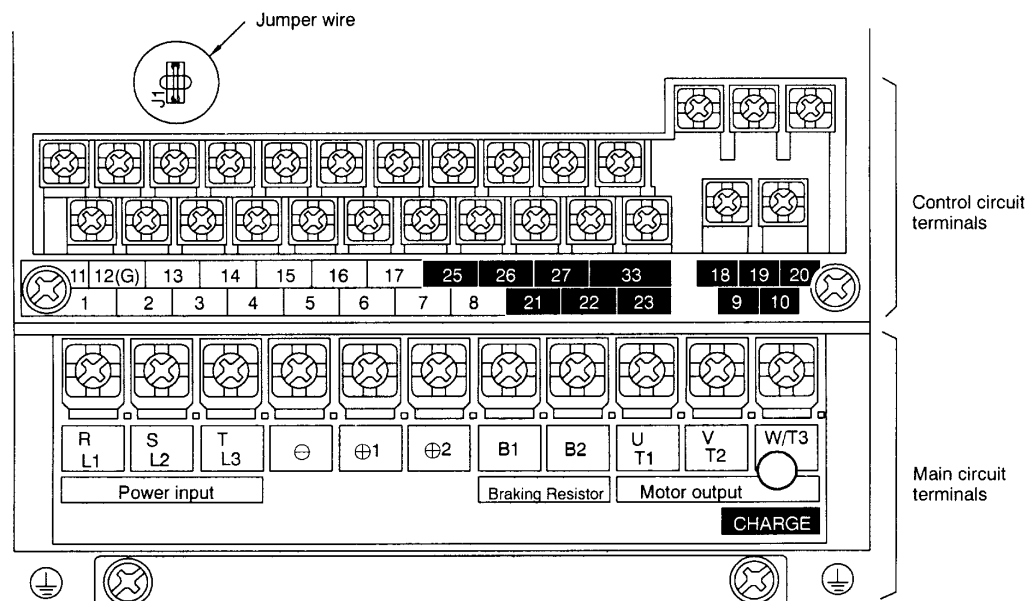

Figure 6.1 Terminal Arrangement of a 200 V Class Inverter of 0.4 kW
- When the terminal is being used as a voltage input terminal (setting 0 or 1), jumper J1 must be disconnected on the control board. (See *Figure 6.1*). The terminal's input resistor will be destroyed if the terminal is used for voltage input with jumper J1 connected.